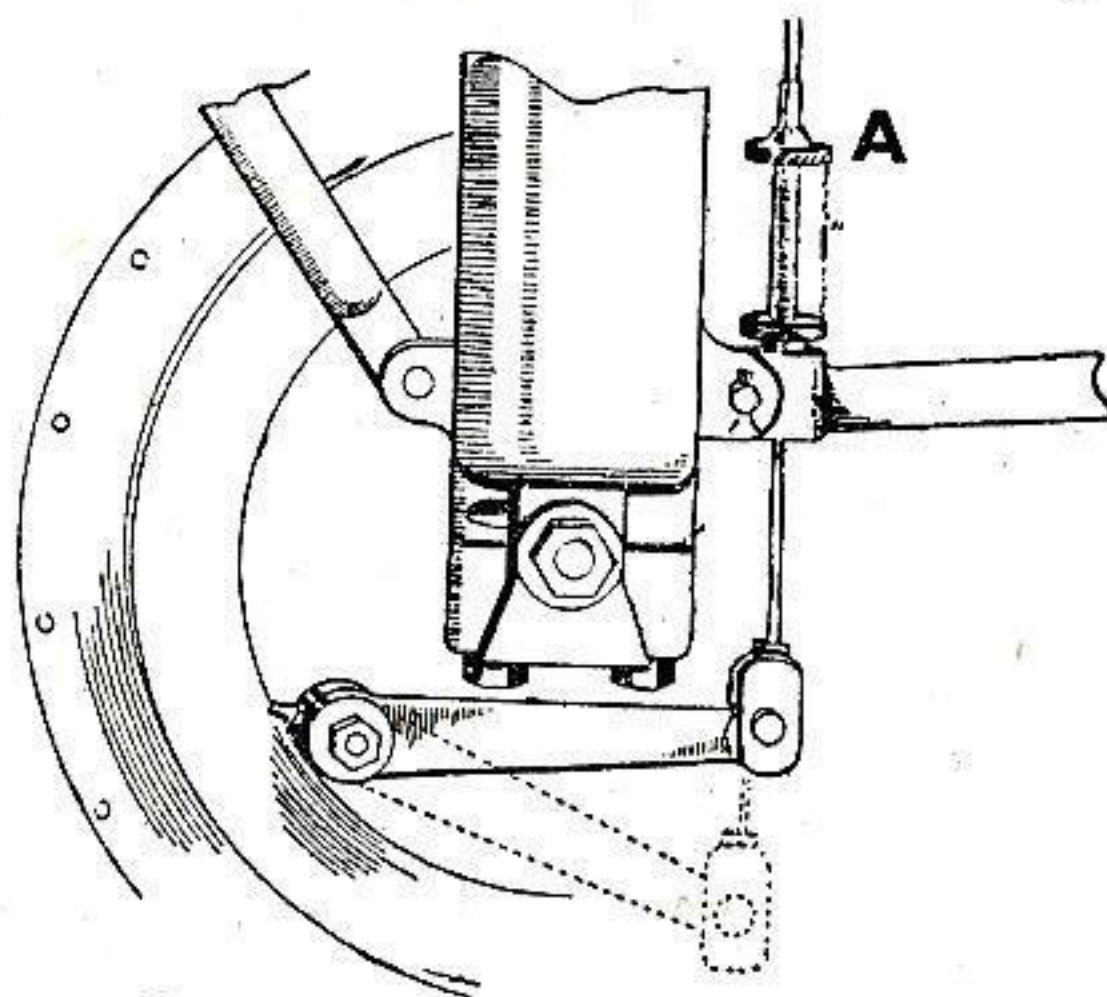

FIG. 75. SHOWING (EXHAUSTED) CABLE ADJUSTMENT ON 1945-7 FRONT BRAKE.
Adjusting the Front Brake. It is advisable to check the adjustment of the front brake weekly. Unless considerable wear of the brake shoe linings and/or cable stretch has occurred, it is generally sufficient to effect a minor front brake adjustment by means of the knurled cable adjuster shown at (A) in Fig. 75.
Should the minor front brake adjustment just described not effect the desired results due to exhaustion of the cable adjustment (see Fig. 75) and the assumption of an ineffective angle by the expander operating lever, a major adjustment is called for. This major adjustment is effected by adjusting the thrust collars or pins on the ends of the brake shoes, as described on page 155.
The tongue (4) fits into the centre of the thrust collar (7). It is important to match both shoes belonging to the *same* pair, and whichever slot is used, the same depth slot *must* be employed for both shoes fitted to the same brake cover plate. After adjusting the brake shoes by means of the thrust collars, it is necessary to slacken off the knurled adjuster shown at (A) in Figs. 75 and 77, and then to adjust the front and/or rear brake, as described on pages 153-154.
tool-kit of each new machine contains two shim washers (Part No. STD-174) for making an adjustment if necessary. Having made an adjustment, slacken off the adjuster shown at 4 in Figs. 75 and 77. Then adjust (see pages 153-154) the front and/or rear brake in the normal manner.